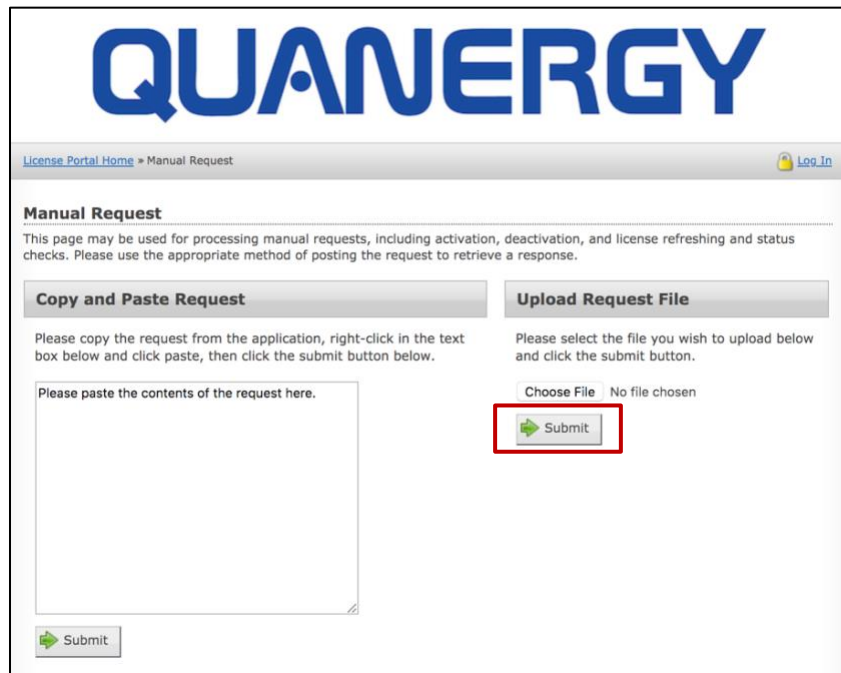

Figure 15. Customer License Portal Manual Request
6. In a browser, navigate to this page of the **Customer License Portal**. See *Figure 15. Customer License Portal Manual Request*.